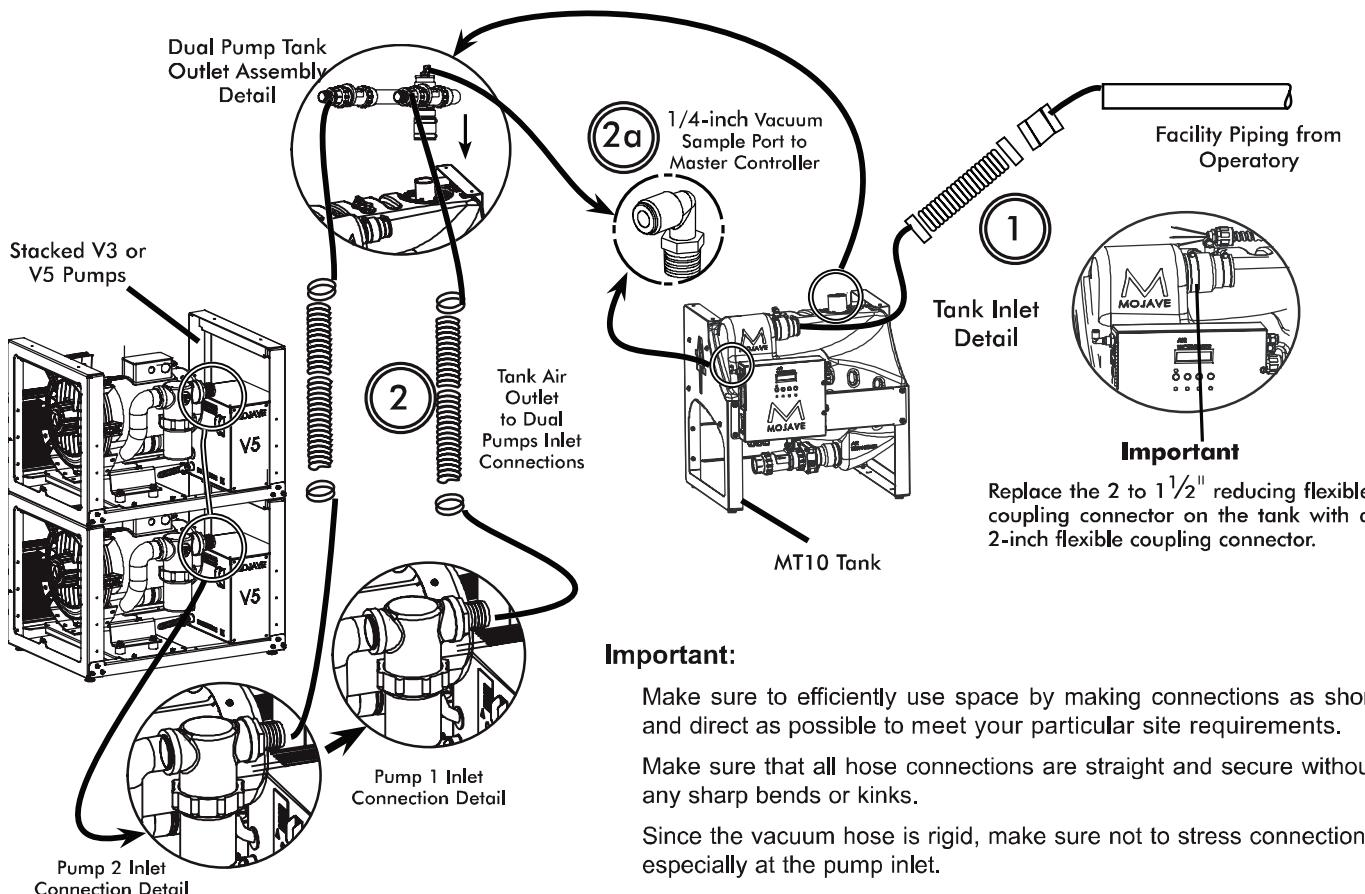

Figure 10. MOJAVE Dual Pump and Tank Connection Diagram, Sheet 1
- c. Install a length of 1/4 inch OD Urethane Tubing (P/N 51453) between the vacuum sample port and the vacuum inlet port of the Master Controller. See Figure 10, item (2a.)
3. **Exhaust Vent Assembly Installation.** Install the Exhaust Vent Assembly (P/N H5302) to the bottom end of the facility vent line. Install a length of 1/4 inch OD Urethane Tubing (P/N 51453) between the vent condensation drain port and facility sewer drain. See Figure 10, sheet 2, item (3).